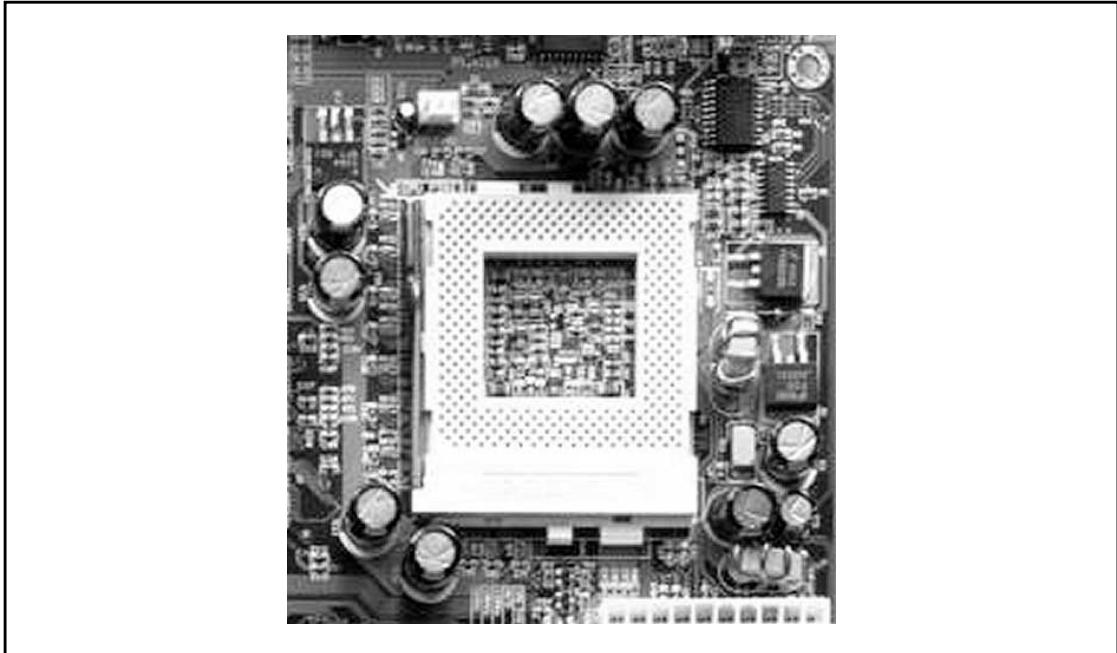

Figure 3-10. A Socket 370 mounting on a motherboard. Photo courtesy of AOpen America, Inc.
- ▲ **Socket 370** The original Celeron main board connection. This supported the early Celerons in the Plastic Pin Grid Assembly (PPGA) format (see Figure 3-10).